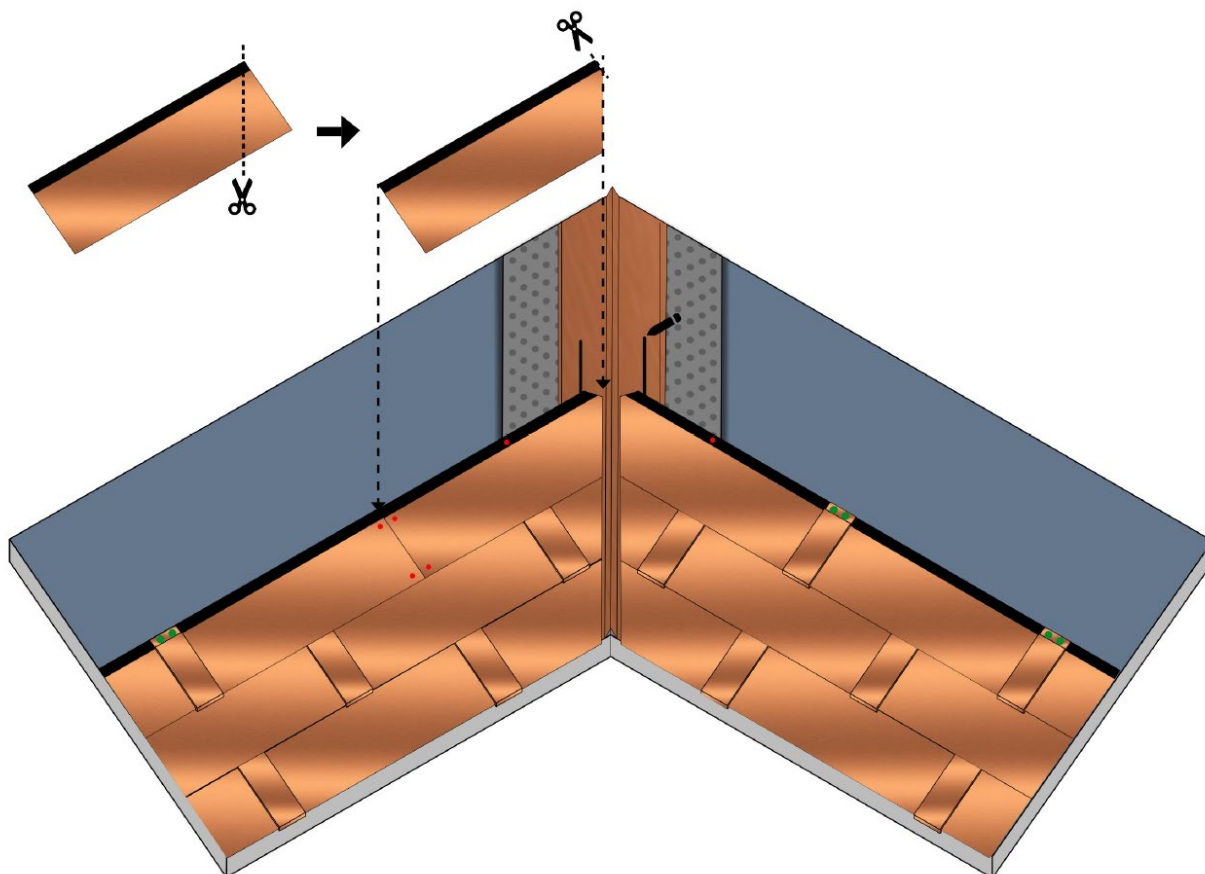

Fig. 16 – Shingles installation at valley
- Next, install the starting row and the shingles on the first pitch, up to the valley line, cutting them 3 cm and parallel to the valley line. Secure the shingles and the starting row with stainless steel nails, up to approximately 40 cm from the valley line, and with Bitustick, applied in two parallel rows, at distances no greater than 40 cm from the valley line, above the metal valley flashing – Fig. 16. It is also advisable to cut the upper edge of the shingle transversely at the valley, to direct the descending water along the valley centreline – Fig. 16.
- Repeat the same procedure for the second pitch. In the end, a channel should be created between the shingles, along the metal valley, where the water will flow preferentially, Fig. 16.